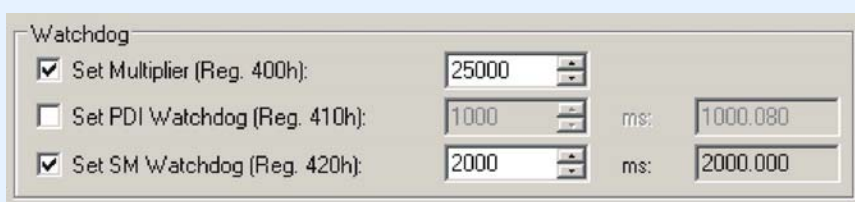

Fig. 11-7 Setting the SM Watchdog function on the TwinCAT System Manager
4. Activate the SM watchdog function by clicking the checkbox *Set Multiplier* and *Set SM Watchdog* (Fig. 11-7).